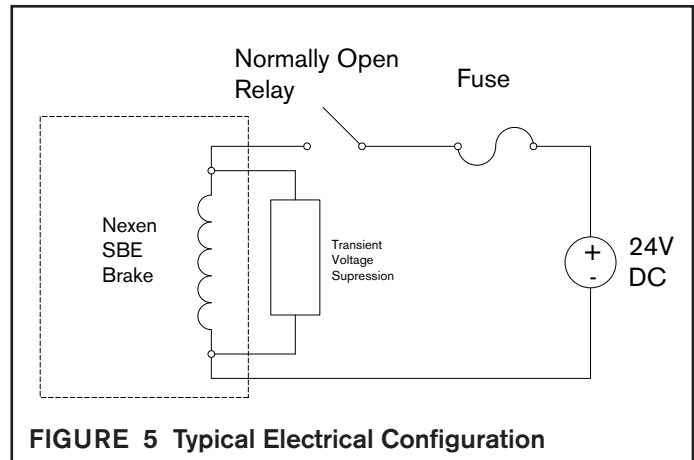

FIGURE 5 Typical Electrical Configuration
4. Figure 5 shows a recommended electrical configuration providing a default to engaged configuration.